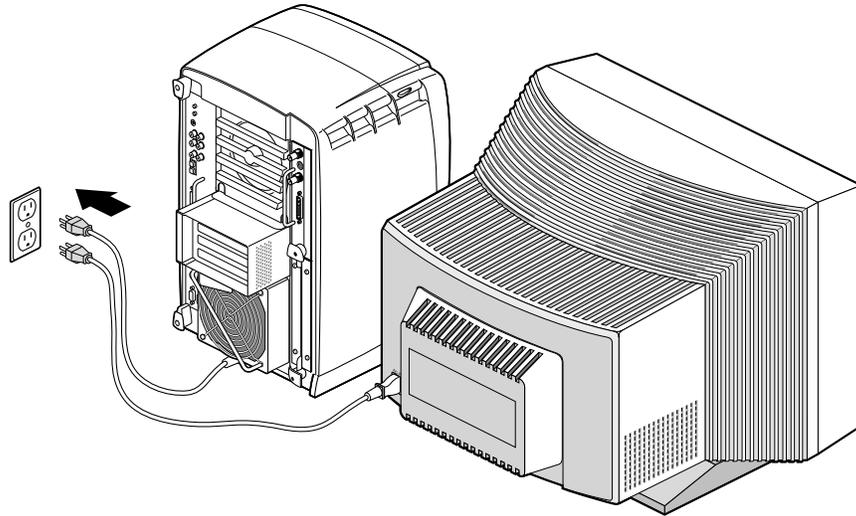

Figure 1-12 Connecting the Monitor and Power Cables to an Electrical Outlet
9. Connect the power cables from your workstation and monitor to an electrical outlet, as shown in Figure 1-12.